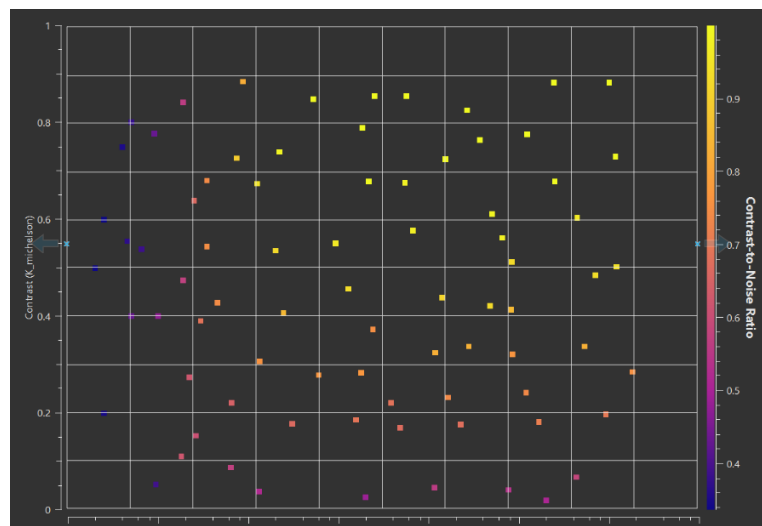

Figure 30 Rasterization of measurement space
- *Reduce number of CTA Patch Pairs*: For highly resolved measurements (e.g. VLS-Control CTA Measurements with all luminance shifts) the calculation of CTA can take a long time. If only a partial result is sufficient for the use case, the amount of patch pairs to be calculated can be reduced. For this goal the measurement space is split up into a grid consisting of contrast bins and luminance bins. For each cell of this grid only a limited amount of patch pairs is analyzed. You can see the grid in Figure 30 Rasterization of measurement space.